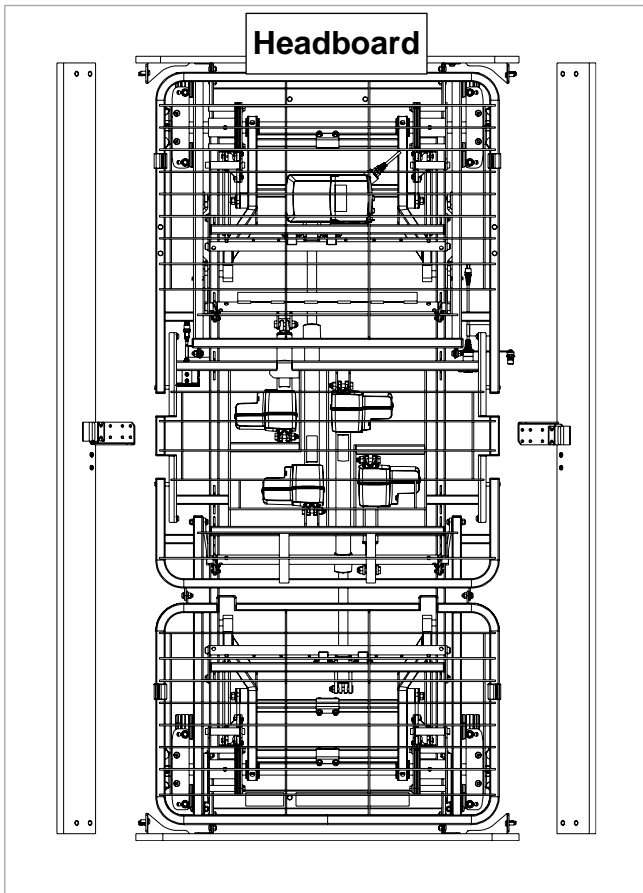
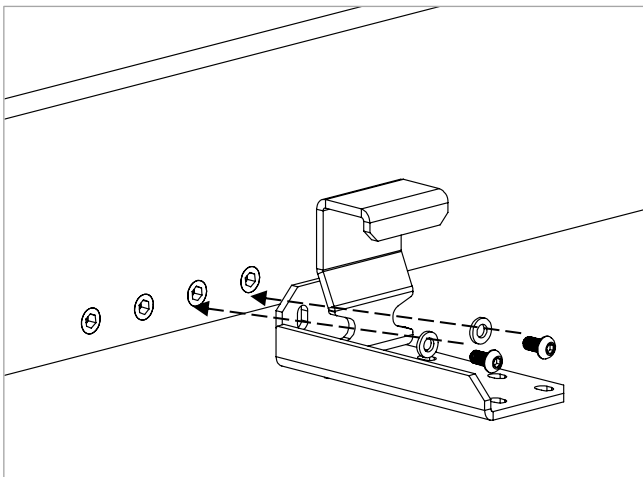

Figure 9.4
Figure 9.5
6. Fit the assembled middle bracket to the side panel. There are two sets of fixing holes on each side panel, depending which side of the bed the side panel is fitted, as shown in Figure 9.4. Fit the bracket to the set of holes closest to the headboard using the M6 x 20 bolts and M6 washers as shown in Figure 9.5. Tighten the bolts using the 4mm Allen key.